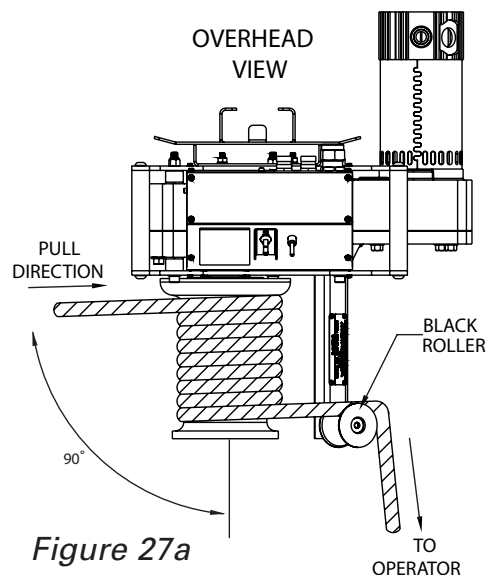

Figure 27a
As shown in the overhead view, Figure 27a, the pulling rope must approach the capstan at a 90° angle. This will help avoid rope overlap.
Make several wraps of the pulling rope around the capstan, beginning at the housing end of the capstan. See Figure 27a.
Next, guide the pulling rope around the black safety roller as shown in Figure 27a. This will enable the operator to stand at a 90° angle to the cable puller and out of the direct line of tight pulling rope.
ALWAYS use black roller to guide rope so that operator stands at 90° angle to the cable puller and out of the direct line of tight pulling rope. See Figure 27a.
ALWAYS wrap rope beginning at housing end of capstan as shown in Figure 27a.
To help avoid rope overlap, rope must approach capstan at a 90° angle. See Figure 27a.
4. Hold the tailing end of the pulling rope as it comes off the black safety roller (see Figure 27a) and pull slightly. Turn the cable puller circuit breaker ON.